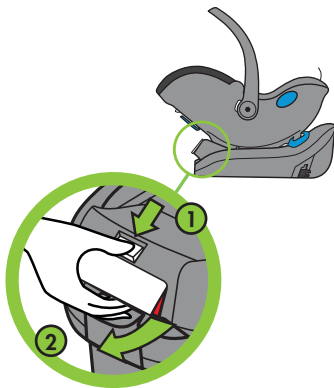

Figure 27
Use thumb to press down and hold Carrier Lock Tab (1). While holding the Carrier Lock Tab down, pull out and hold the Release Handle to the open position (2) as shown in **Figure 27**.